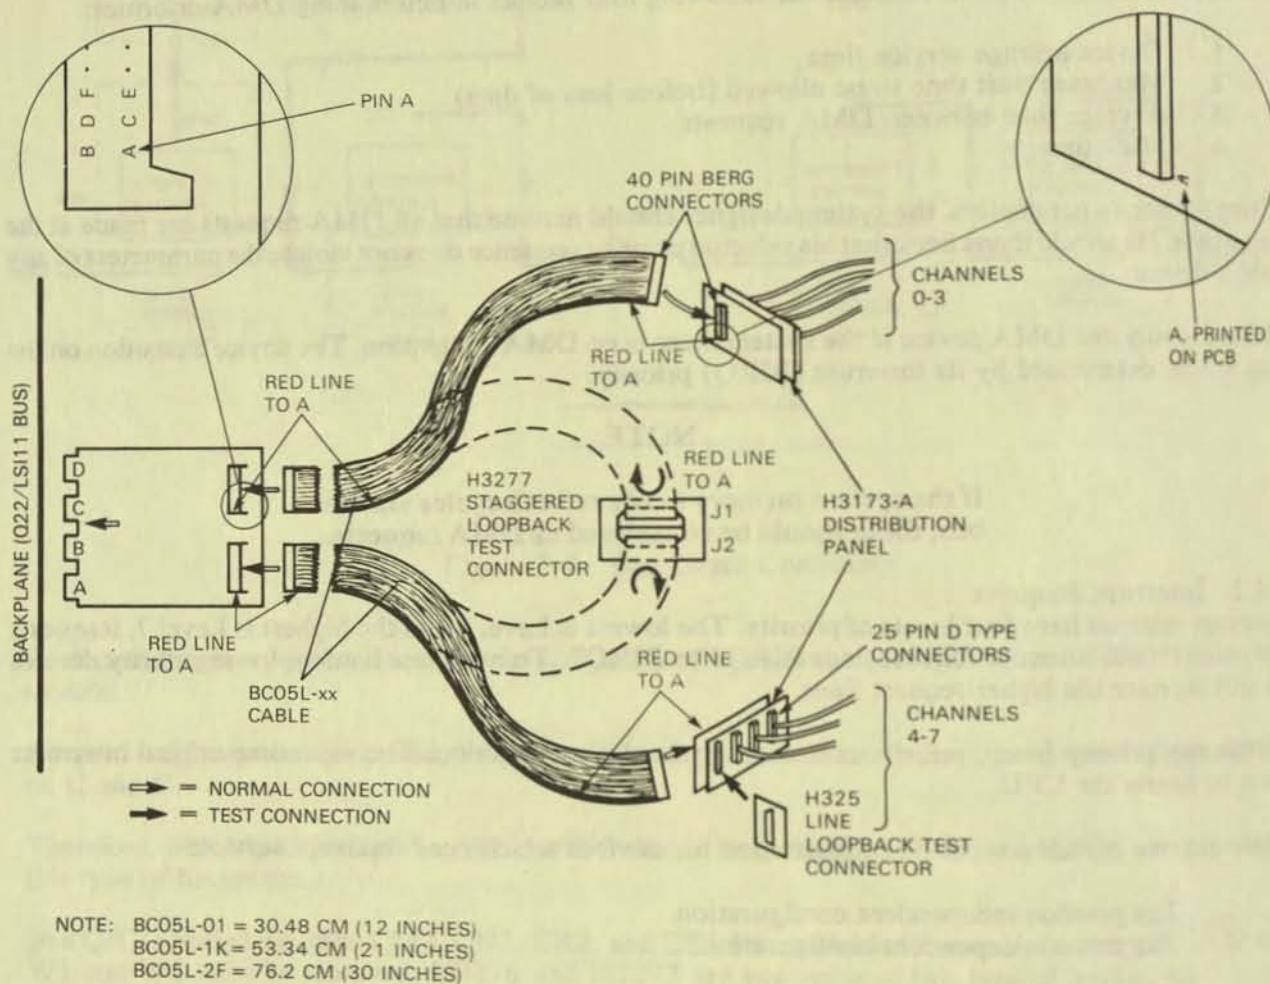

Figure 2-5 DHV11 Installation
1. Connect the BC05L cables to J1 and J2. Figure 2-5 shows how the parts of the option connect together.